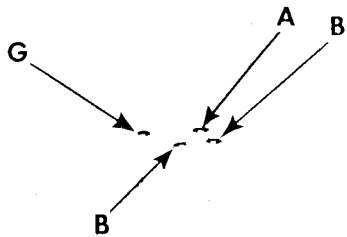
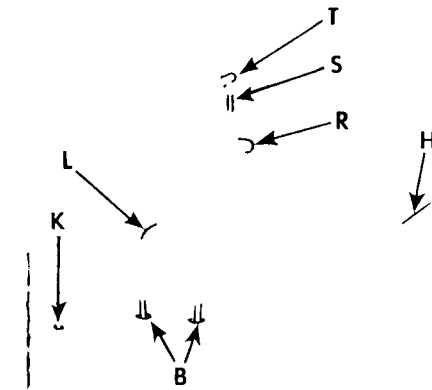
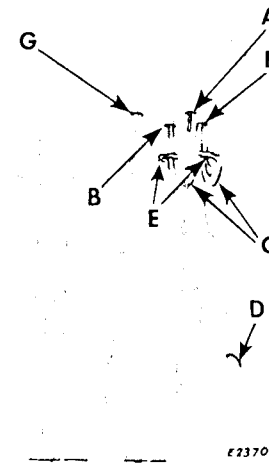
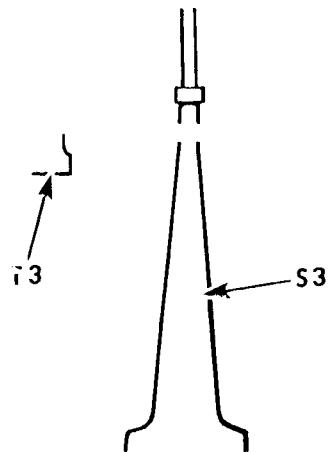

Fig. 2. Machine installed on SINGER universal Low Shaft Power Table
Fig. 5. Rear View of Machine
Fig. 6. Front View of Machine on Power Table
Fig. 7. Underside of Universal Power Table
These machines are set up with the face plate toward the operator, as shown in **Fig. 2**. Each machine is furnished with a removable base. This base must be properly attached to the table before the sewing machine is placed upon it.
In the installation shown by **Figs. 2 and 3**, the two belt holes **B** are bored in the table to center 14-1/2 inches from the front edge of the table top. These belt holes should be spaced 2-1/2 inches center to center, and the diameter of the belt holes **B** may be from 5/8 to 1 inch.
the round hole in the right hand side of the machine base. Therefore, with the machine base placed in proper relation to the belt holes **B**, **Figs. 2 and 3**, as instructed above and on the preceding page, the holes **G** and **A**, **Fig. 2** should be bored in the table for the two treadle chains. The right hand treadle chain hole **A**, **Fig. 2** should be bored in the front plank so that it is directly beneath the corresponding
hole in the machine base, while the left hand treadle chain hole **G**, **Fig. 2** should be bored in the table so that it is directly beneath the rod **S**, **Fig. 5** which is attached to the button clamp lifting lever **T** **Fig. 5**, thus bringing the hole at the left hand end of the elongated hole in the machine base.
The front plank extension (rear) **K**, **Fig. 5** is fastened to the rear plank but with its front edge against the rear edge of the front plank and in such position, with relation to the machine driving pulley **L**, **Fig. 5**, that, when the belt and pulley guard **H**, **Fig. 5** is turned down to cover the pulley **L**, the rear bottom edge of the belt and pulley guard **H** will rest, throughout its entire length, upon this front plank extension **K**.
Fasten the bracket, with the two idler pulleys **C**, **Fig. 6**, in such position that the two belt guides **E**, **Fig. 6** are directly beneath the two belt holes **B**, **Figs. 5** and **6** in the front plank.
The machine belt should then be passed around the machine driving pulley **L**, **Fig. 5** through the belt holes **B**, **Figs. 5** and **6**, through the belt guides **E**, **Fig. 6** under the two idler pulleys **C**, **Fig. 6**
and around the large pulley **D**, **Fig. 6** on the drive shaft below.
Bear in mind that the direction of rotation of the machine driving pulley **L**, **Fig. 5** is from right to left, when facing the rear of the machine. This direction is indicated by the arrow, shown in **Fig. 5** on the pulley **L**. Note that this arrow appears only in the illustration and not on the actual pulley.
Fasten the two treadles in position on the floor as shown in **Fig. 6**. Pass the chain from the right hand treadle up through the right hand hole **A**, **Fig. 6** and fasten it to the machine starting lever in the machine base. Pass the chain from the left hand treadle up through the left hand chain hole **G**, **Fig. 6** and fasten it to the clamp **R**, **Fig. 5** on the lifting rod **S**, **Fig. 5** all as shown in **Fig. 5**. As will be seen in **Fig. 6**, the length of each chain is easily regulated, at its lower end, for proper installation.
Fasten the belt guide **126870** shown at **S3**, Fig. 7 to the cross member of the leg section, and fasten the idler **126885**, shown at **T3**, Fig. 7 to the underside of side of the center board as shown in Fig. 7.
**NOTE:** Idler **T3** must be positioned directly beneath the machine to insure that the travel of the belt from the machine driving pulley **L**, Fig. 5 to the pulleys of idler **T3** will be approximately perpendicular, as shown in Fig. 7.